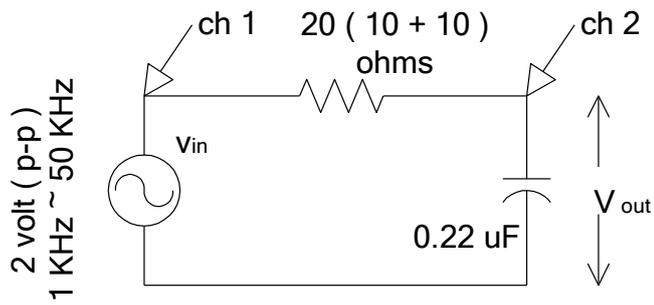

Figure 2 : RC Lowpass Filter
A simple first order RC low pass filter is shown in figure 2. Gain of this filter is given by:
1. Construct the circuit of figure 2. Connect  $V_{in}$  to channel 1 and  $V_{out}$  to channel 2 of the oscilloscope. Adjust the signal generator to 2 volt ( p-p ) & 100 Hz.